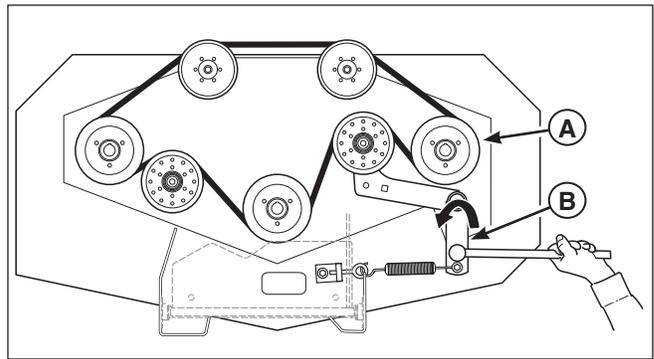
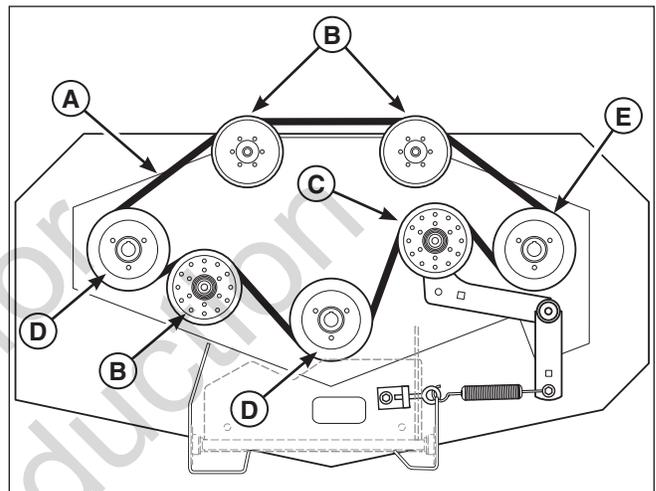

Figure 48. 48" Mower Deck Belt Removal
Figure 49. 48" Mower Deck Belt Routing
5. Using a 1/2" breaker bar, place the square end in the square hole located in the end of the idler arm (A, Figure 48). Carefully rotate the breaker bar COUNTER-CLOCKWISE, which will relieve the tension on the belt exerted from the idler arm.
6. Slid the mower deck drive belt over the edge of the left spindle pulley (B). Carefully release the tension on the breaker bar.
8. See Figure 49. Install the mower deck drive belt (A, Figure 49) on the stationary idler pulleys (B), the spring-loaded idler pulley (C) and all of the spindle pulleys (D) except for the left spindle pulley (E). Carefully rotate the breaker bar COUNTER-CLOCKWISE and install the belt on the left spindle pulley. Carefully release the tension on the breaker bar.